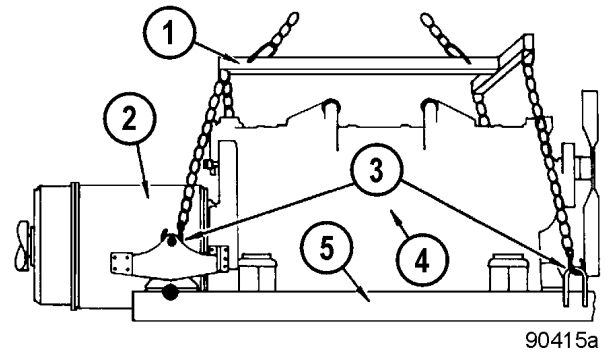

FIGURE 2-10. POWER MODULE LIFTING POINTS
Lift the power module only at the lifting points on the subframe and engine/alternator cradle structure. Refer to Figure 2-10.
8. Attach lifting tool (1, Figure 2-10) to the hoist and attach it to the engine/alternator cradles and the front subframe lifting points as shown in Figure 2-10. Remove the safety chain.
4. Attach lifting tool (1, Figure 2-10) to the engine/alternator cradles and front subframe lifting points (see Figure 2-10).